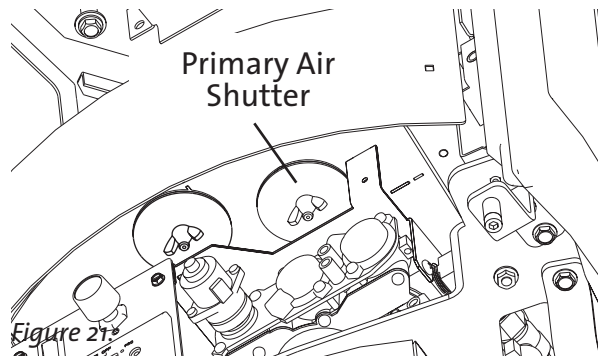

Figure 21. Air Shutter location.
3. Loosen the primary air shutter wingnut and push the stem all the way back. Fig. 21.
- You will need to remove the pilot hood and burner plate to provide clearance to install the glass panels. Pull the pilot hood off of the pilot base - it will slip past its retainer clip. Loosen the Air Shutter and push it all the way back to disengage the burner venturi tube from the shutter. Simply lift the burner up and out of the firebox. See figs. 21 and 23.